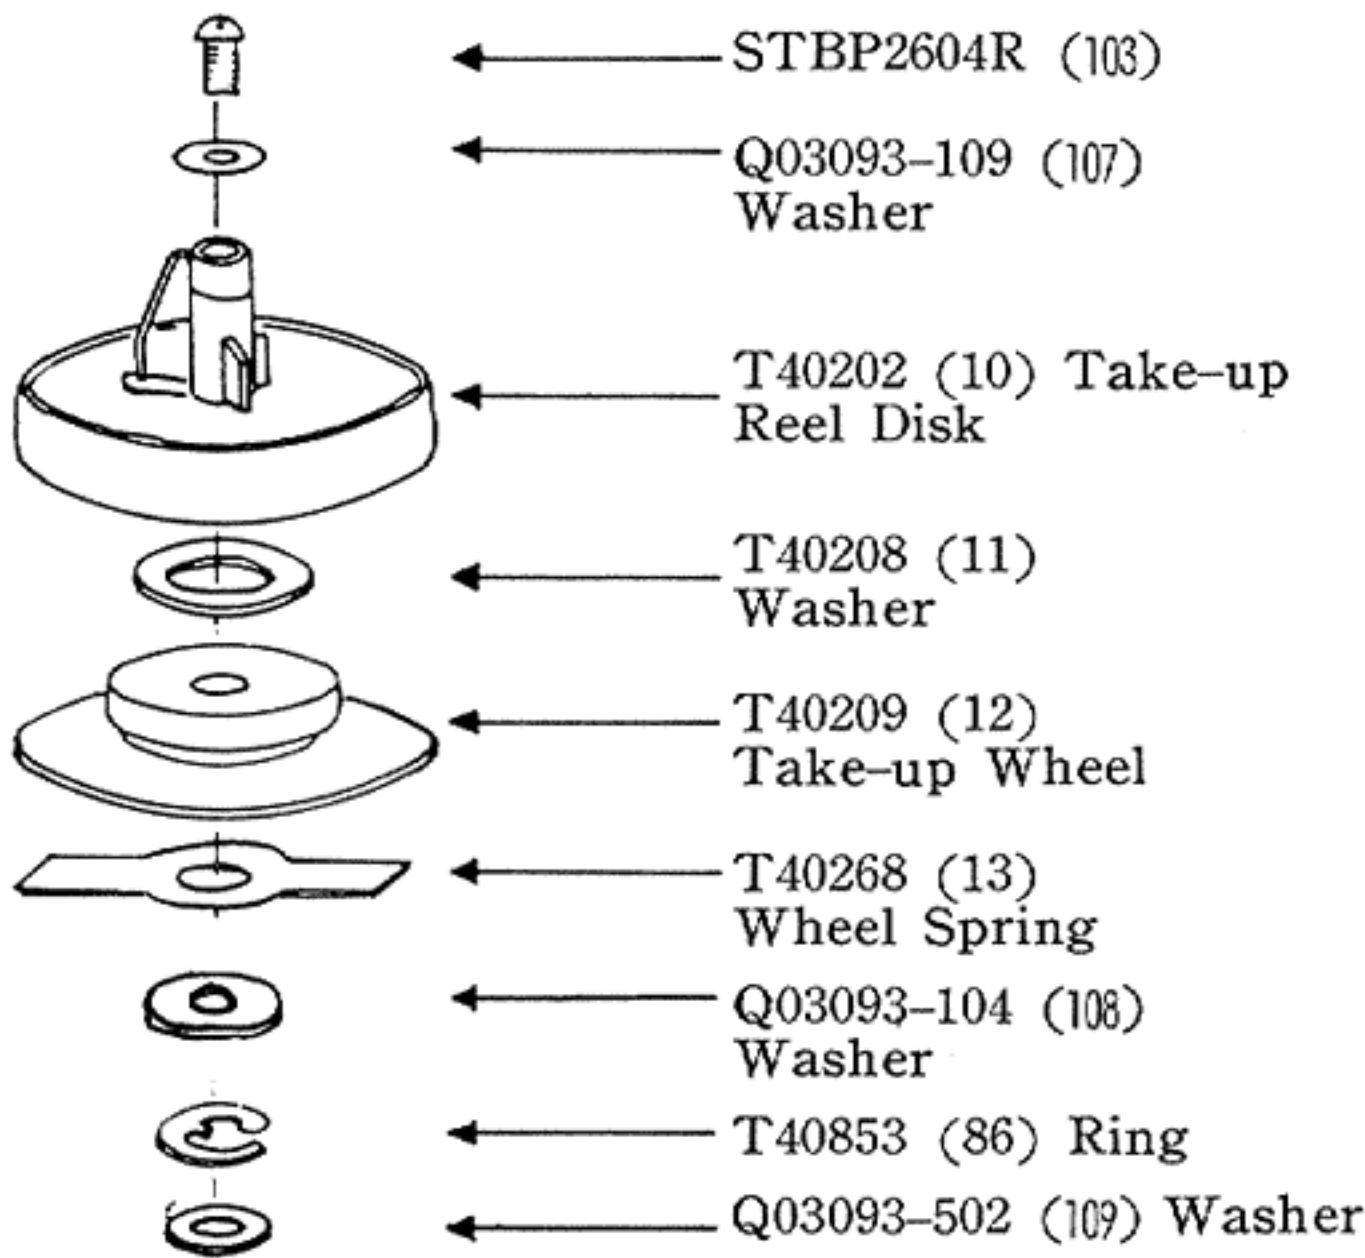

Fig. 4
5. Disassembling Procedure of Supply Reel Disk and Take-up Reel Disk. (Fig. 4 &5)